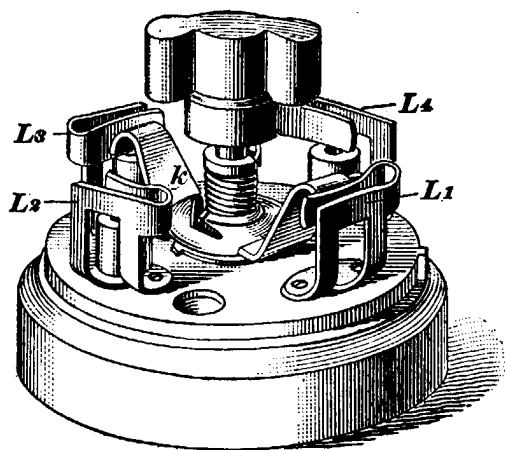

FIG. 48.
43. Fig. 48 shows an ordinary three-way switch that is commonly used on cars for cutting the headlight out and the tail-light in, or *vice versa*.
On the switch shown in Fig. 48 there are, besides the switch blade k , four spring contact clips L_1, L_2, L_3, L_4 , three of which have a post to take a car wire and one of which, L_1 , has no post. Inside the switch base, L_1 is connected to L_2 ; the trolley wire goes to the post on L_2 , so that there are on the switch two trolley posts L_1 and L_2 , and no matter in what position k may be, one end of it is bound to make contact with a trolley post. When k is in the position shown in the figure, the current comes in at L_2 , goes over to L_1 by way of the inside connection, crosses k , and goes out on the L_3 wire. If k is given a quarter-turn, the current comes in on L_2 , crosses on k , and goes out on the L_4 wire. When controlling two independent circuits or when used to cut in and out alternately two parts of the same circuit, the three-way switch has no off-position.